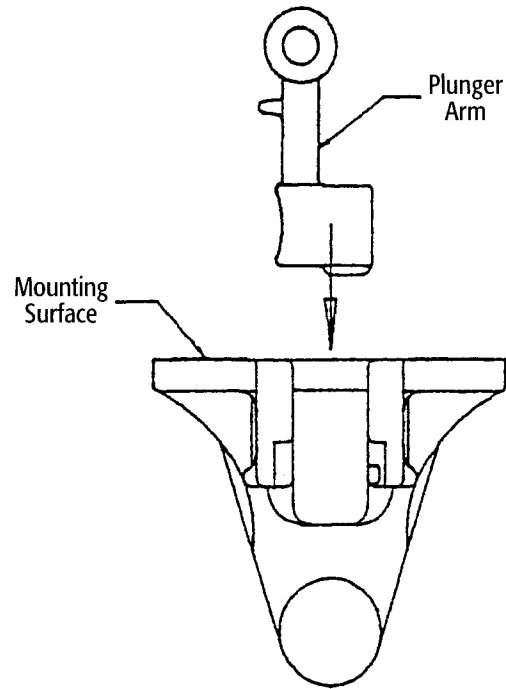

Fig. 4
1. Apply a liberal amount of a good grease inside the shaft hole in the new Plunger Arm (2). Holding the new Plunger Arm in the position *illustrated by Fig. 4*, insert it through the opening in the back (mounting face) of the Body until it stops against the horn of the hook.
3. Insert new Compression Spring (7) into the recess in the Body and onto the post on the Plunger Arm, and insert the new Shaft (5). The end of the Shaft that has a hole for the Rivet is inserted first. Do not install the new Snap Ring or Rivet at this time.